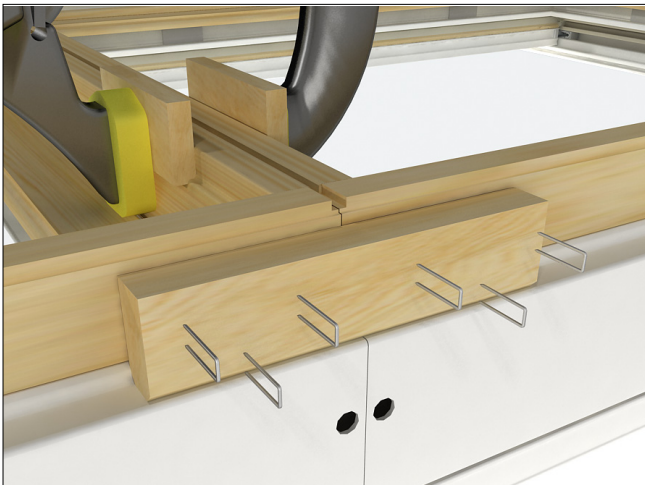

Figure 7
7. Remove the wood standing blocks at the sills near the mullion. Center mull tie block at junction points and attach with four 3/16"x1" 18 gauge staples into each unit. See figure 7.